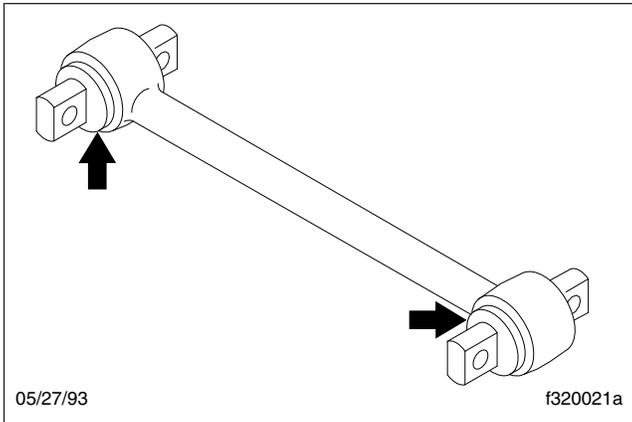

Fig. 1, Torque Arm Bushings
3. Inspect the rubber bushing ends. See **Fig. 1**. Replace the torque arm for any of the following reasons.